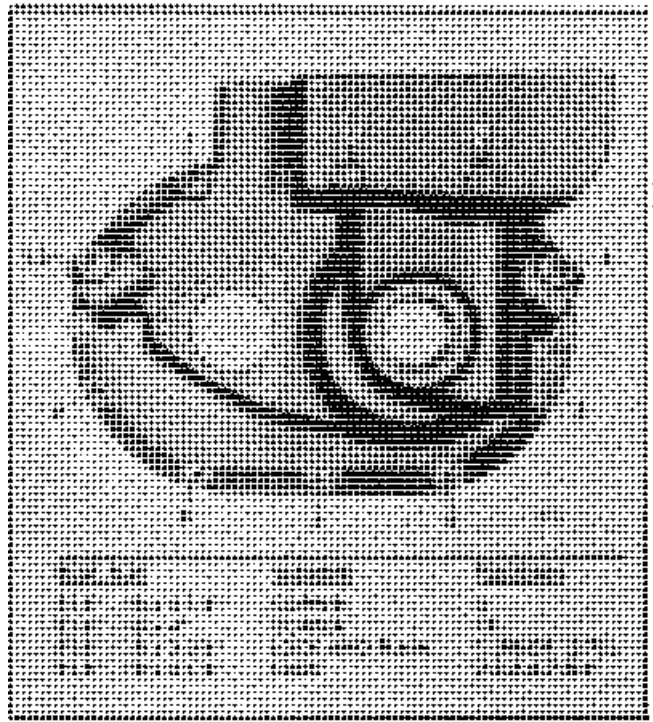

FIG. 27 Location and Size of Governor Retaining Bolts
6. Refer to Fig. 27 for the location and install the bolts, lock washers, copper washers and plain washer securing the governor to the blower. Tighten the bolts to 13-17 lb-ft (18-23 Nm) torque.